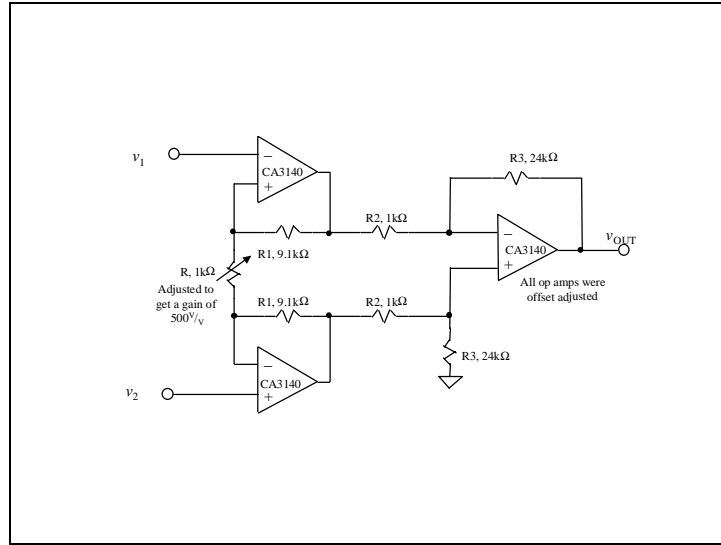

Figure 3.1b: Differential Input Voltage Amplifier
7. Because v_e is too small, amplify v_e before taking its measurements. For this purpose, a “500^{V/V} closed loop gain” differential input amplifier (as shown in Figure 3.1b on the next page) is built. The output of amplifier of Figure 3.1b is given as follows:
$$v_{OUT}(\text{of Figure 3.1b}) = 2 \frac{R1}{R} \frac{R3}{R2} (v_2 - v_1) \quad (\text{Eq. 3.1})$$